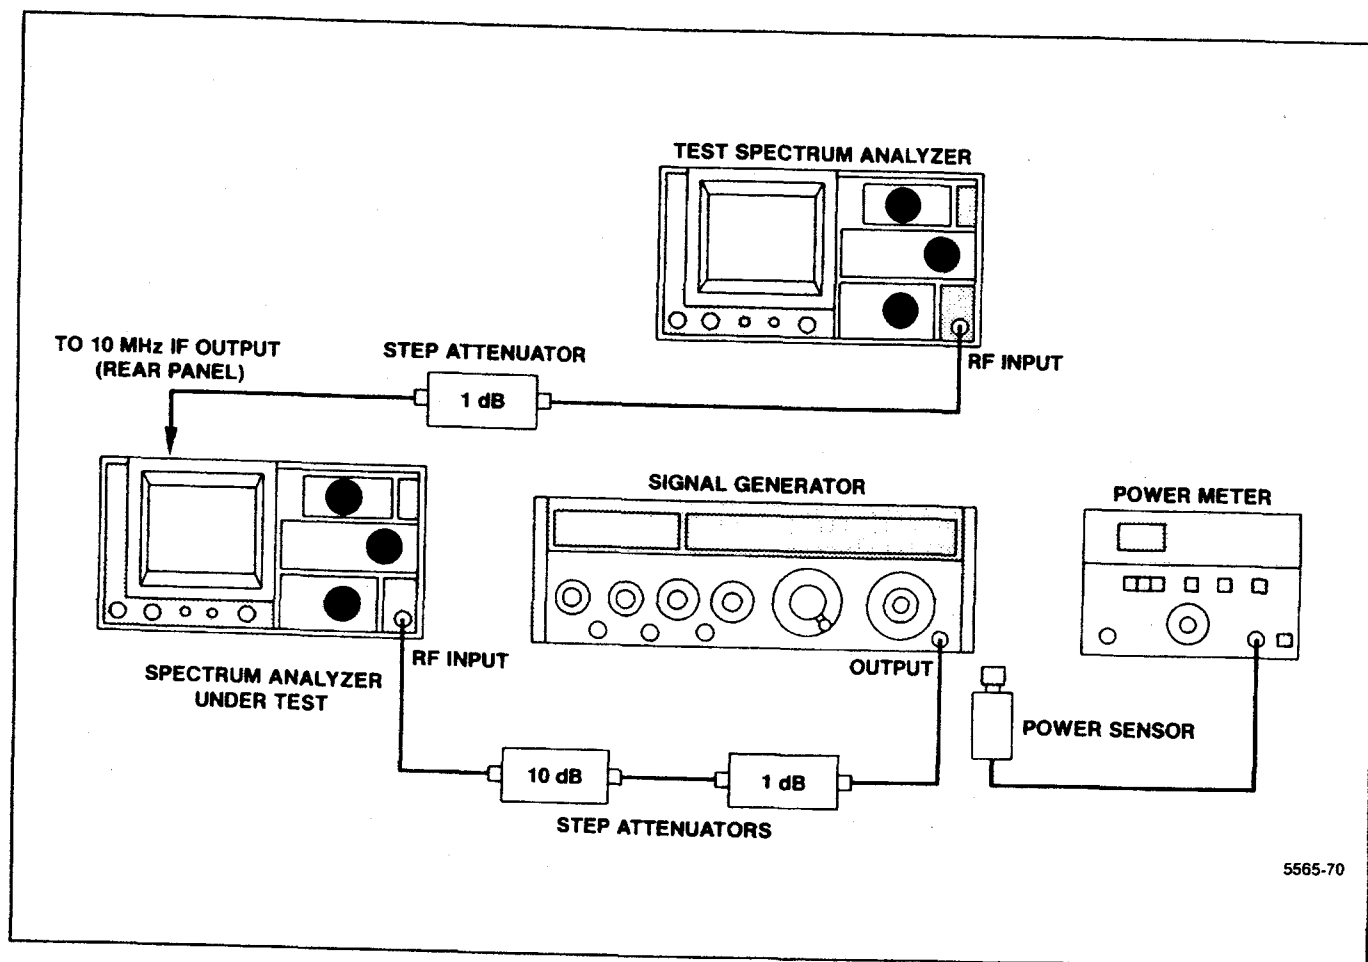

Figure 4-19. Test equipment setup for checking 1 dB input compression point.
b. Connect the test equipment as shown in Figure 4-19, using the generator with the calibrated output level. Set the Spectrum Analyzer controls as follows: